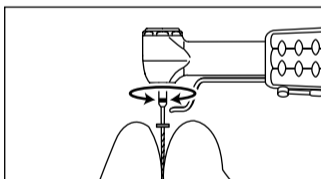
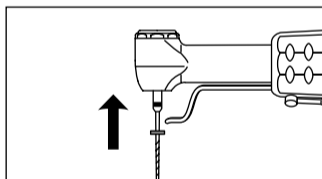

Fig. 4
Fig. 5
- ⑤ Insert the Endodontic file into the head. Lightly turn the file until it engages with the latch mechanism. (Fig.4) Push it inward to click. (Fig.5) Removal file